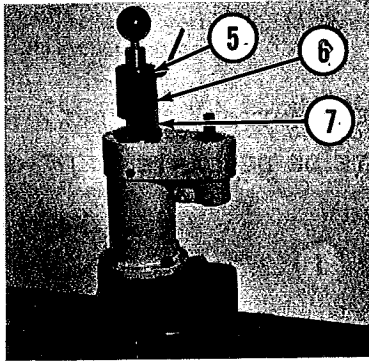

Fig. 12
9. Loosen screw (#5 Figure 12) until the depth set collar (#6) is free. Install depth set gauge (7) and make adjustment to nut (6) until it is against gauge (7). Tighten screw (5) to hold nut (6) in place.